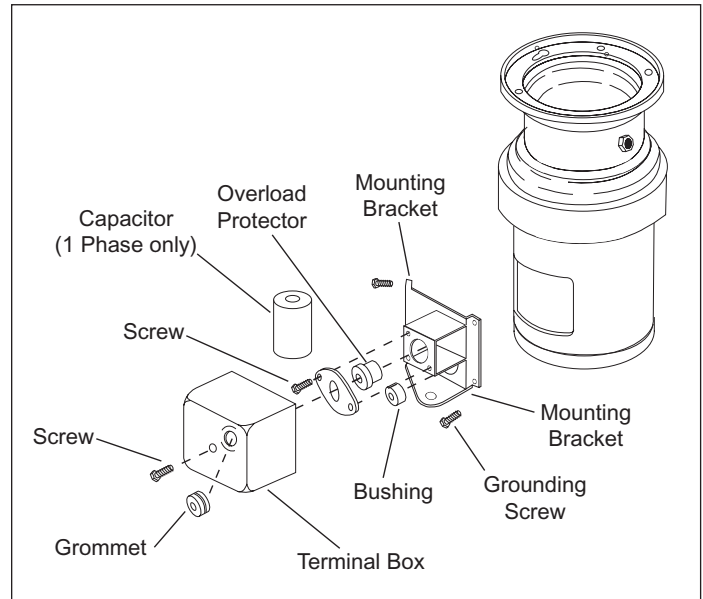

Figure 31. Terminal Box and Components
6. Remove screws and mounting bracket from stator assembly (Figure 31).
1. Install mounting bracket to new stator (Figure 31).